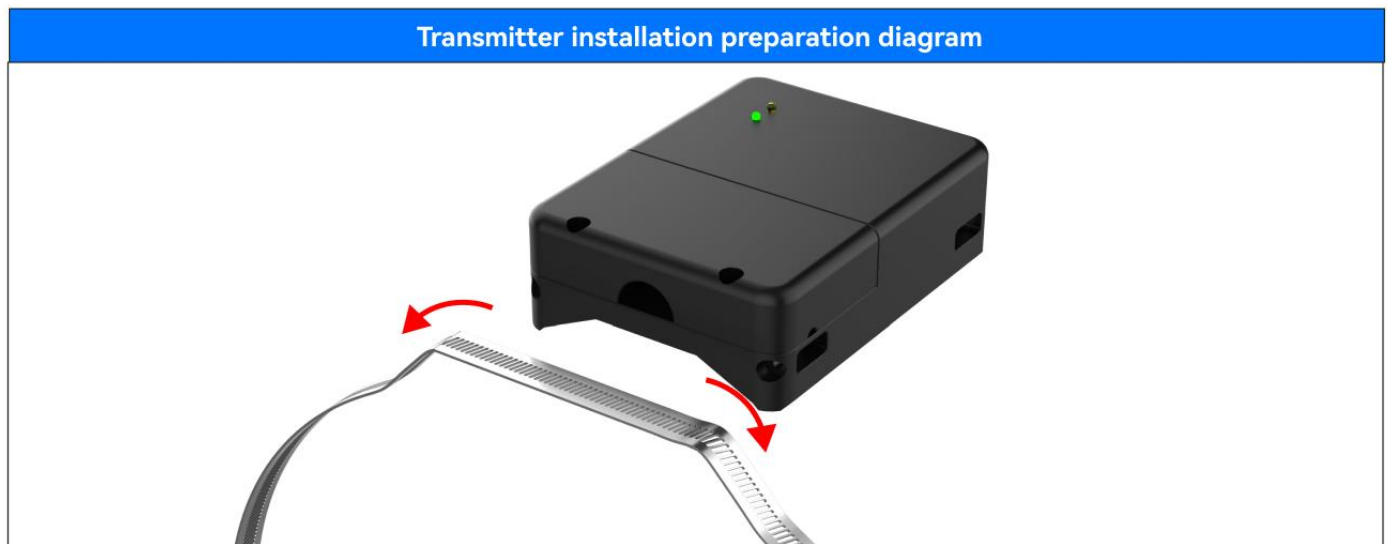

Figure 3.27
6. For shafts with smaller diameters, you may find it helpful to preform the throat band into a "U" shape by bending the band over the two cap bolts in the sender housing, as shown in Figure 3.27, which will give the throat band the correct shape to insert into the sender housing.